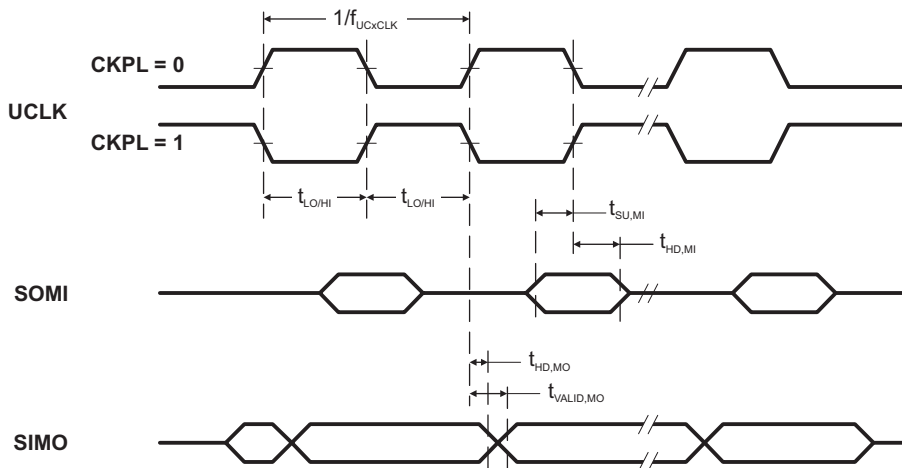
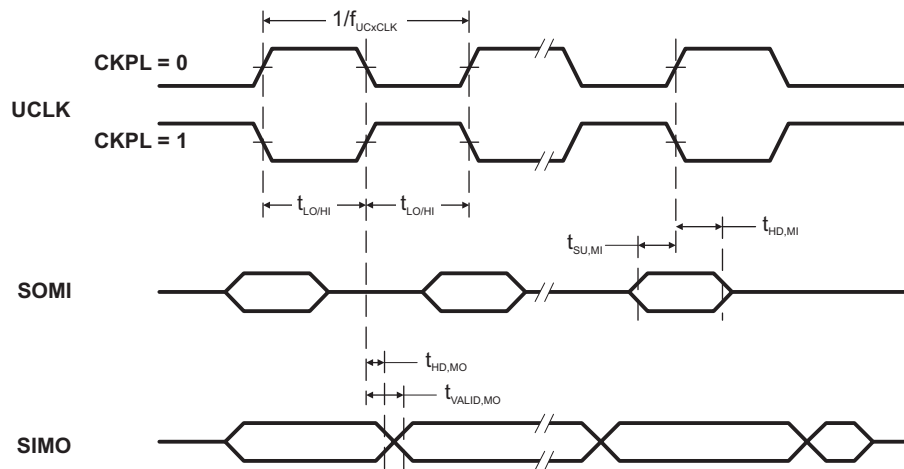

Figure 11. SPI Master Mode, CKPH = 0
Figure 12. SPI Master Mode, CKPH = 1
over recommended ranges of supply voltage and operating free-air temperature (unless otherwise noted) (see Note (1), Figure 11 and Figure 12)
- (1) fUCxCLK = 1/2tLO/HI with tLO/HI ≥ max(tVALID,MO(USCI) + tSU,SI(Slave), tSU,MI(USCI) + tVALID,SO(Slave)). For the slave's parameters tSU,SI(Slave) and tVALID,SO(Slave) refer to the SPI parameters of the attached slave.
- (2) Specifies the time to drive the next valid data to the SIMO output after the output changing UCLK clock edge. Refer to the timing diagrams in Figure 11 and Figure 12.
- (3) Specifies how long data on the SIMO output is valid after the output changing UCLK clock edge. Negative values indicate that the data on the SIMO output can become invalid before the output changing clock edge observed on UCLK. Refer to the timing diagrams in Figure 11 and Figure 12.
(2) Specifies the time to drive the next valid data to the SOMI output after the output changing UCLK clock edge. Refer to the timing diagrams in Figure 11 and Figure 12.
(3) Specifies how long data on the SOMI output is valid after the output changing UCLK clock edge. Refer to the timing diagrams in Figure 11 and Figure 12.